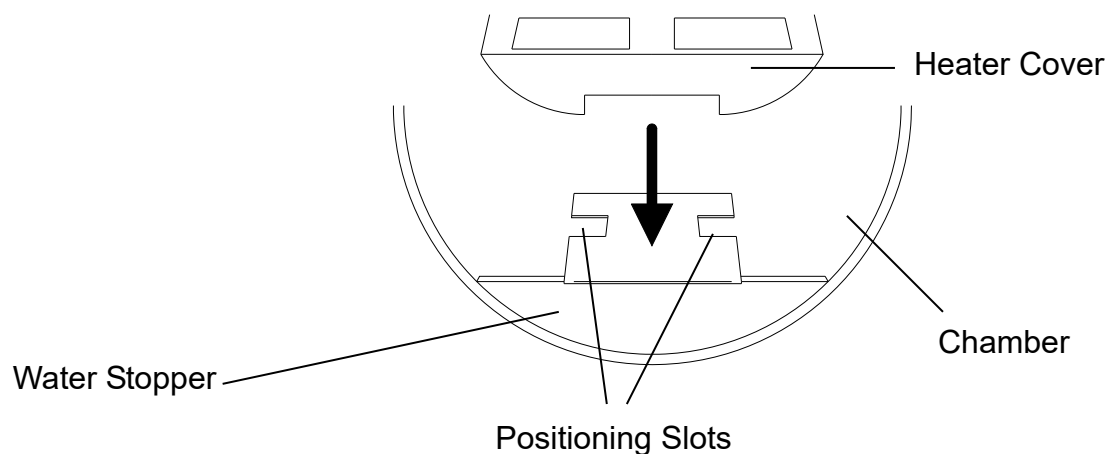

Figure 28 – Heater Cover
- B. Install the heater cover to the chamber as Figure 28 – Heater Cover (standard accessory)